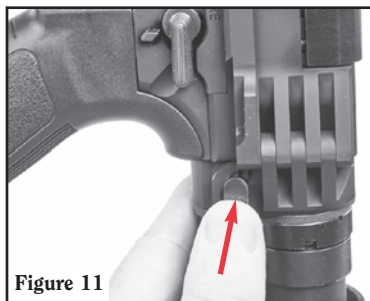
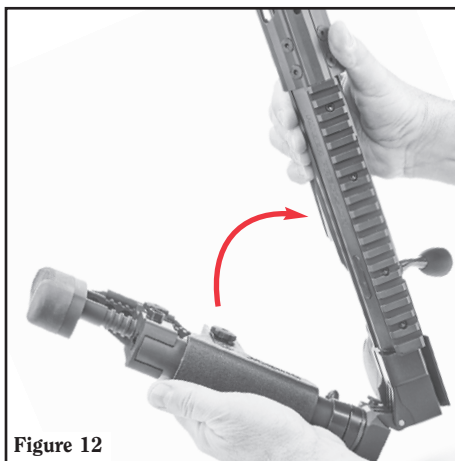

Figure 11
Figure 12
4. Push the stock release button (see Figure 11) and fold the stock fully to the left (see Figure 12).